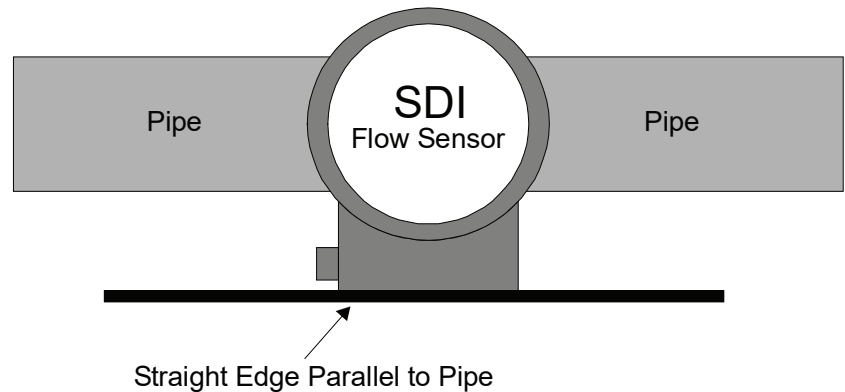

Figure 6: Level the sensor
7. Align the flow sensor with the pipe by using the flat cover on the electronics housing as a guide. Place a straightedge along the cover and rotate the sensor until the straightedge is parallel with the pipe as shown in Figure 6.